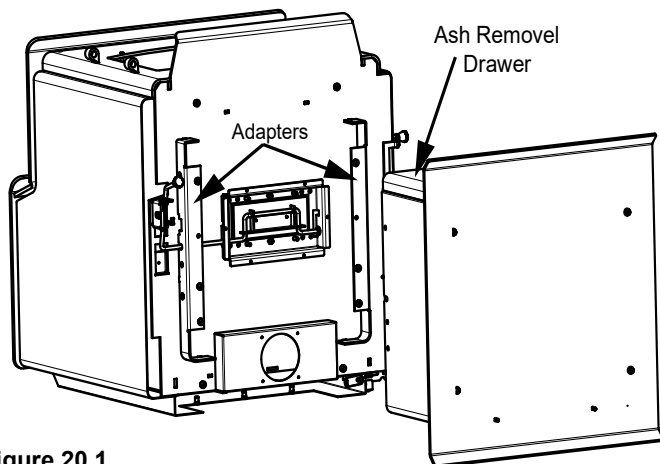

Figure 20.1
2. Slide pedestal over adapter on bottom of appliance and secure with bolts from heat shield (**Figure 20.1 on page 20**).